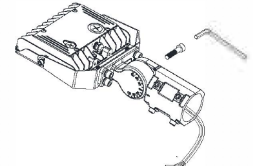

Fig. 4.3
3. Pass the cable through and lock the bracket (Fig. 4.3).